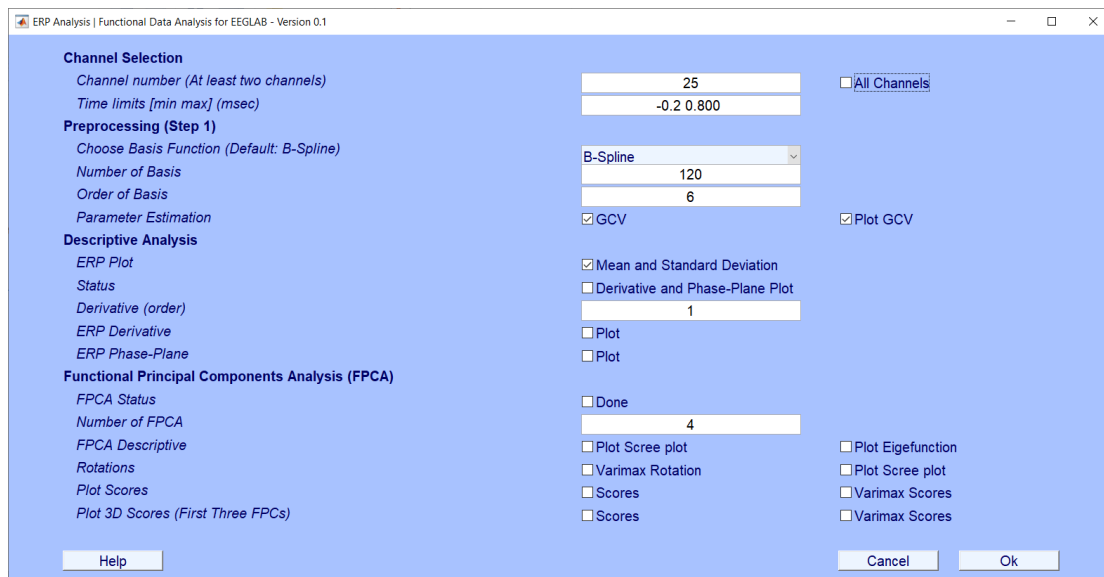

Figure 19– Plot scores of VARIMAX Rotated FPCAs of the first two FPCAs.
- 4- In the **Descriptive Analysis** part, check Mean and Standard Deviation and uncheck all other options. (Figure 19)